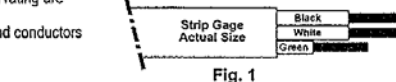

Fig. 1
4. Remove insulation from cable and conductors as shown in Fig. 1.